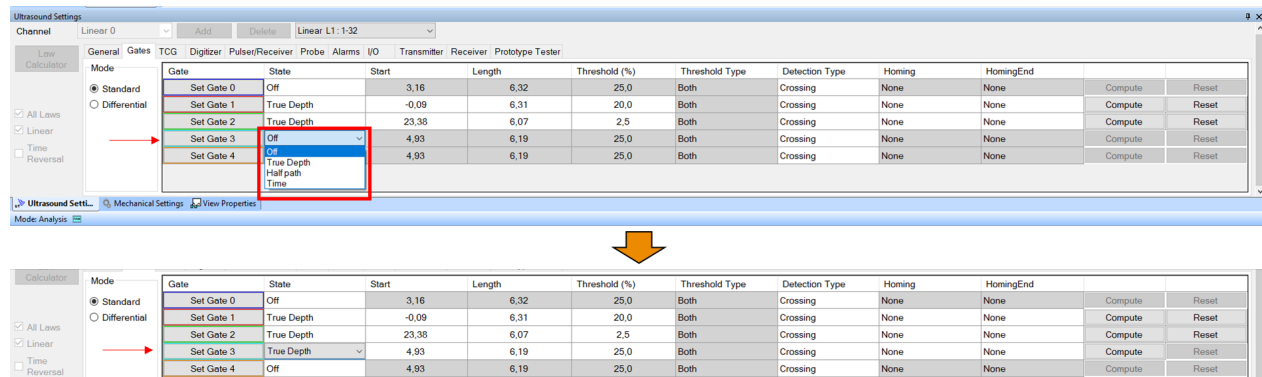

Figure 5: Activating a gate from Gates page in the analysis mode
- In Figure 5, the user activates **Gate 3** which was already off in the data file. The user switches the State from "Off" to "True Depth"